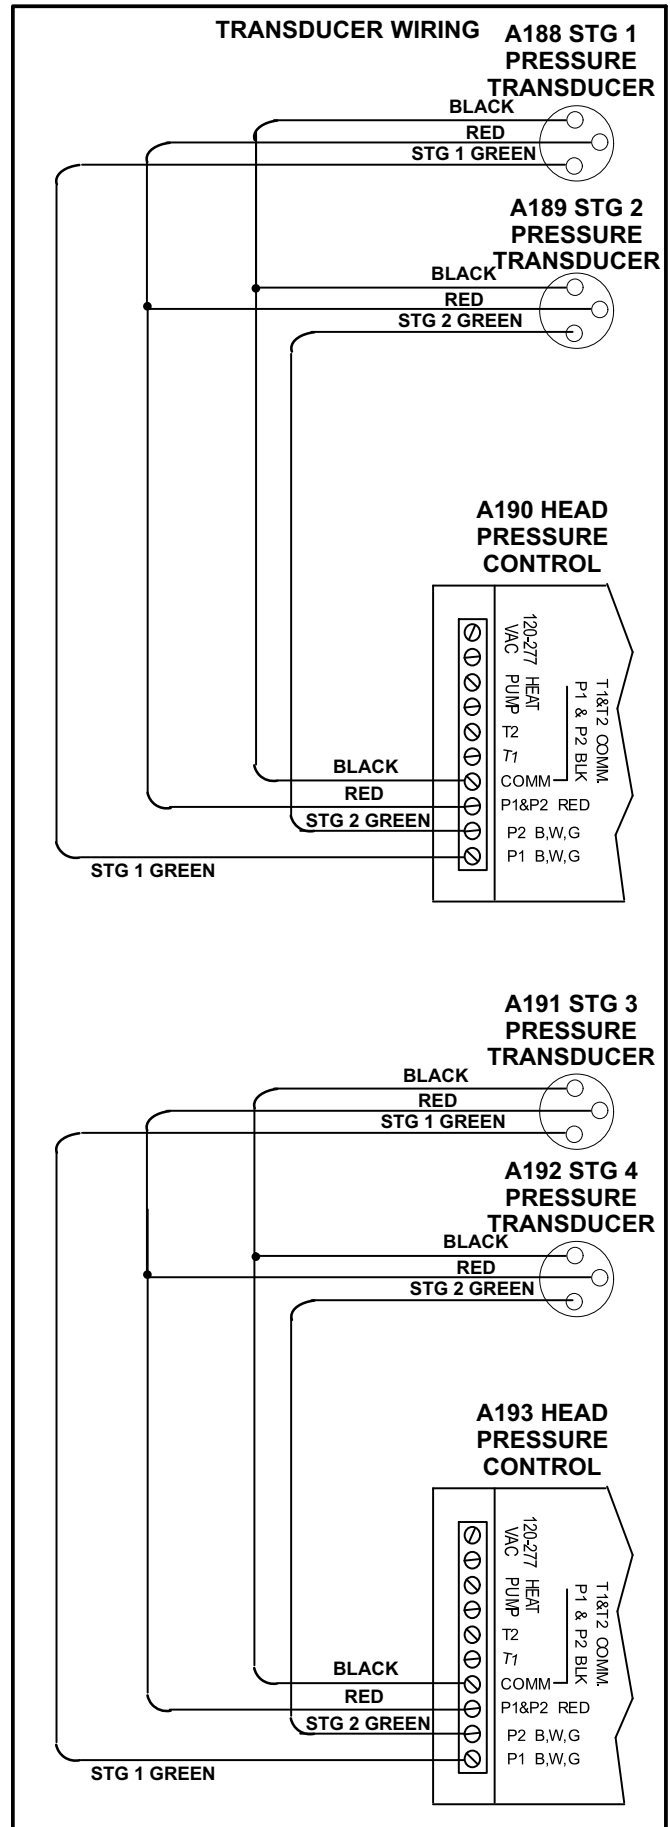

FIGURE 4
- 1- Make transducer wire connections as shown in figure 4.